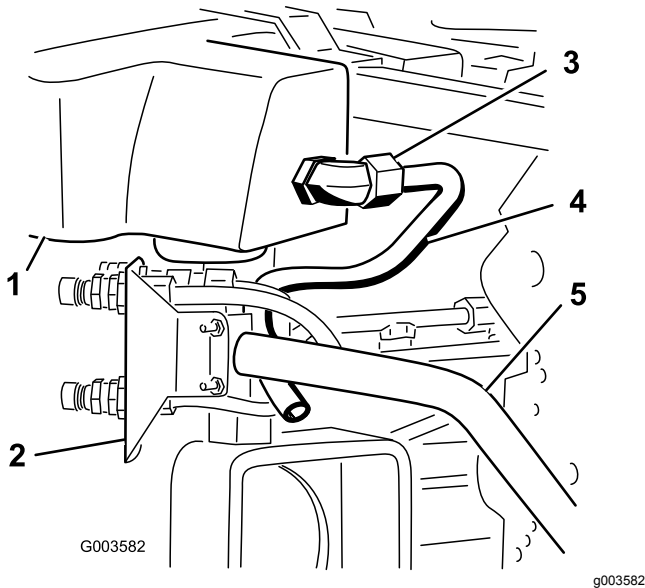
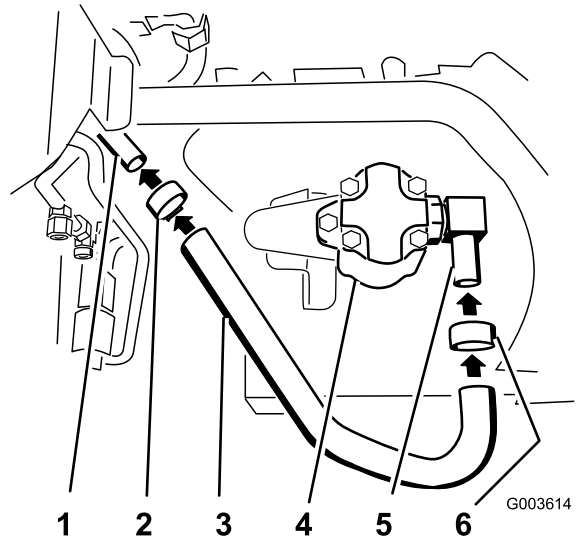
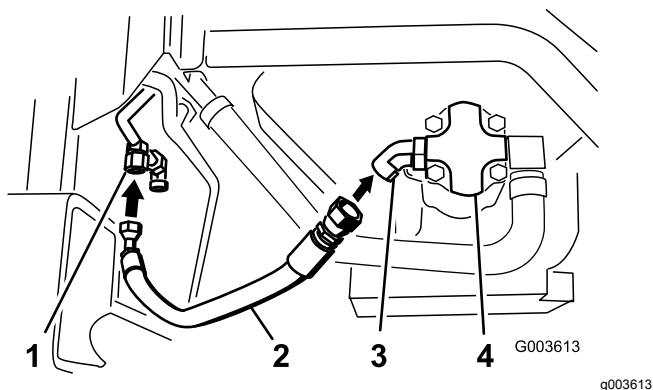
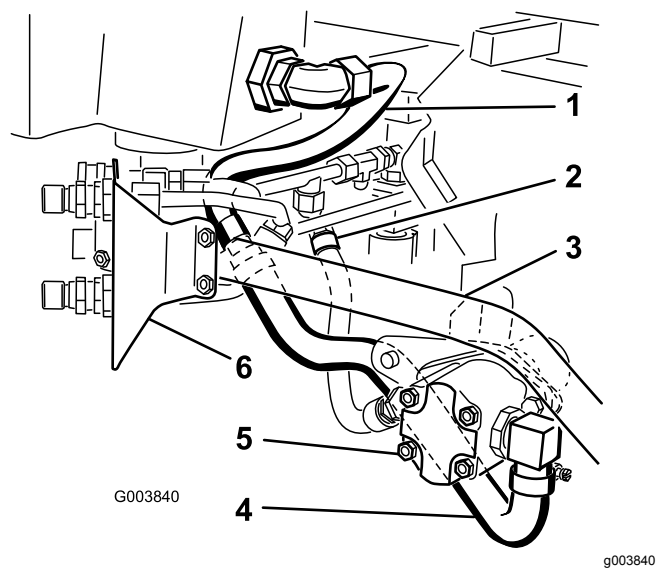

Figure 26
Figure 27
Figure 30
Figure 31
4. Position hydraulic line number 3 into the machine as shown in Figure 26.
5. Install hydraulic line number 3 to the large 90-degree elbow installed to the strainer and hydraulic tank (Figure 26 and Figure 31).
3. Tighten a hose clamp around the hose and elbow (Figure 27).
4. Install the large hydraulic hose to hydraulic line number 3 (Figure 27).
5. Tighten the hose clamp around the hose and hydraulic line number 3 (Figure 27).
2. Install the large hydraulic hose to the 90-degree elbow installed to the side of the hydraulic pump (Figure 27 and Figure 31).
9. Install the hydraulic hose with fittings to the 45-degree elbow attached to the hydraulic pump (Figure 30 and Figure 31).
10. Refer to Figure 31 for the correct locations of the hoses and hydraulic lines to the hydraulic pump.